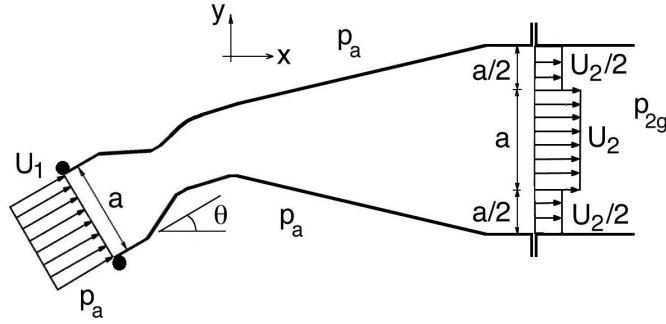

Figure P3.34
3.34 A steady, constant density flow of air with a uniform velocity U_1 is sucked into a two-dimensional Venturi duct of width w and enters the rest of the duct at Station 2 with the velocity profile shown in Figure P3.34. Find: